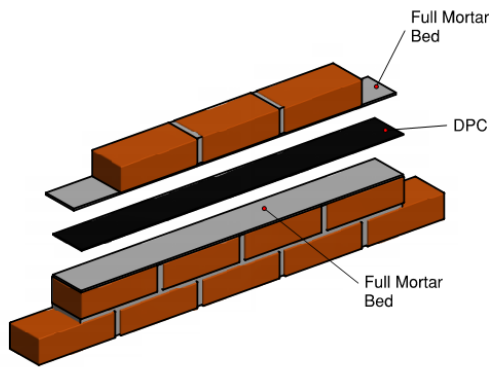

Figure 2 – Hyload DPC bedding
- The DPC **must** be sandwiched between even beds of wet mortar, receiving a further course of masonry units on mortar on the DPC. The weight of these immediate courses helps to develop good adhesion between the masonry units, the mortar and the DPC (Figure 2);